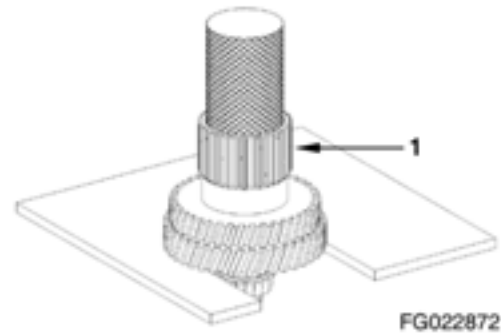

Figure 231
5. Press in preassembled idler gear (1, Figure 231) onto the shaft until contact is obtained.